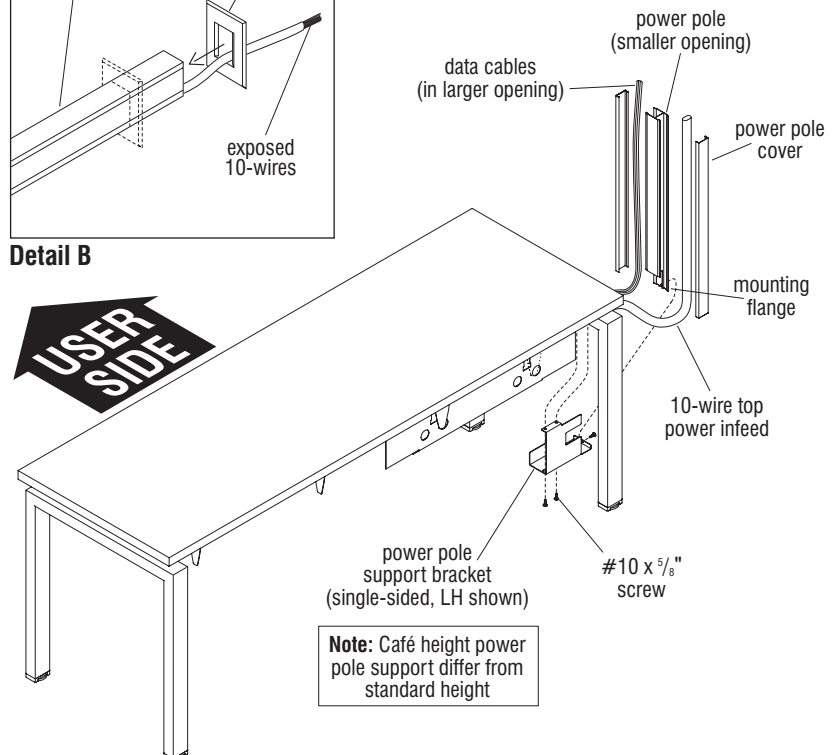

Figure 3 - Single-Sided Fixed Benching, 10-Wire Top Power Infeed Installation
9. Run data cables out of the hole cut in the ceiling tile and down through the larger opening in the power pole. Route the cables through the power pole support bracket, as was done with the power infeed (Figure 3). Data cables will be managed later by the power access door when it is closed.
10. Rotate the power pole vertical such that the mounting flange faces outward (Figure 3). Carefully push the top end of the pole up into the hole in the ceiling and set the bottom of the pole down onto the ledge of the power pole support bracket. Use the #8 x $\frac{3}{8}$ " screw from the power pole and insert it through the mounting hole of the support bracket and tighten it into the power pole at the mounting flange (Figure 3).